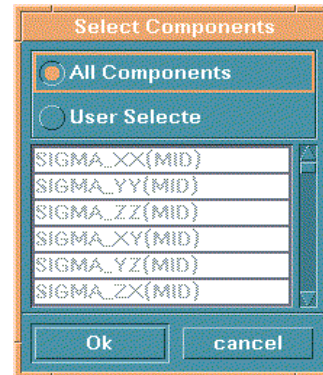

Figure 3.2.5
7. Select the component(s) and choose OK in Figure 3.2.5. The file(s) will be loaded in the current database and the model in the file(s) will be displayed.